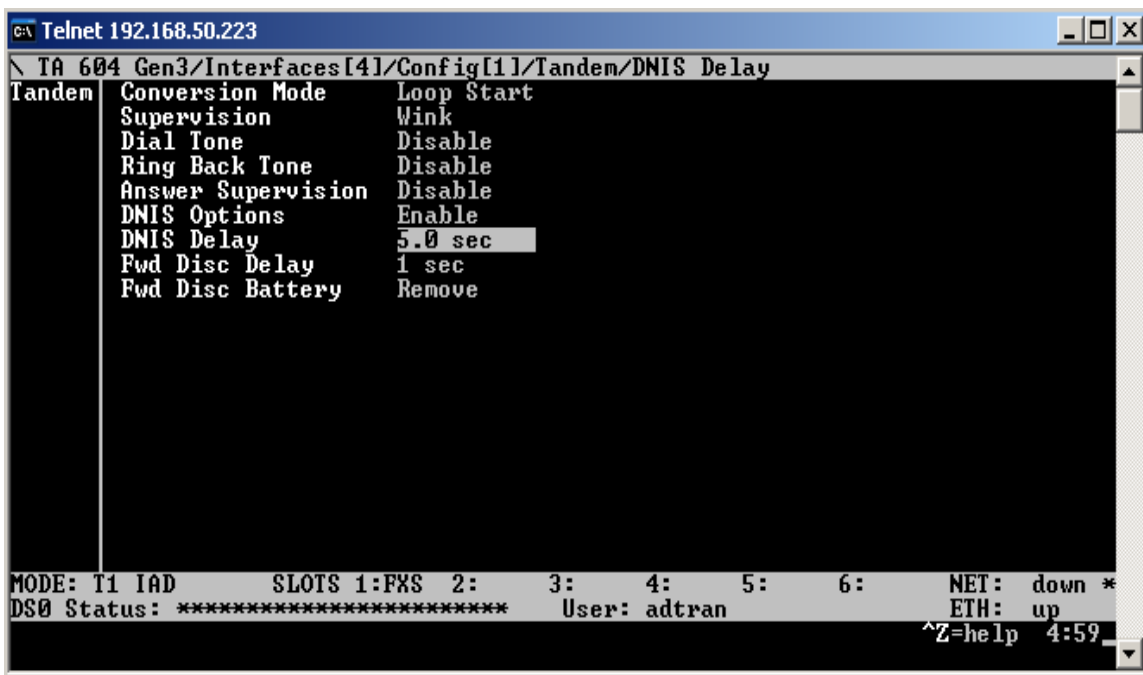

Figure 8
6. Set DNIS Options to “Enable”, then set DNIS delay to “5.0 sec”. (Note: if delay is too long, change DNIS delay to 3.0 seconds). See Figure 8.